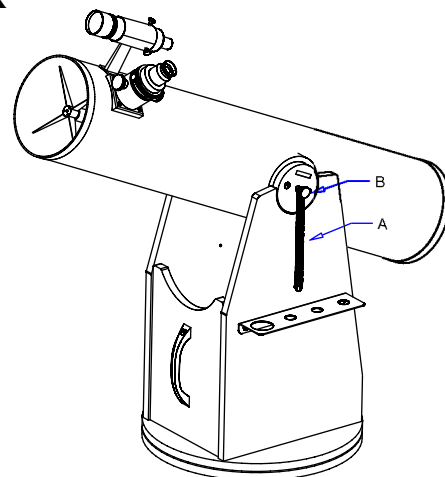

Fig 1. Spring 'A' and existing bolt 'B'
1) The 'original model' GSO Dobs can be identified by having springs on their Altitude axis as shown in Fig 1. Detach spring 'A', as indicated in Fig 1, from rocker box.